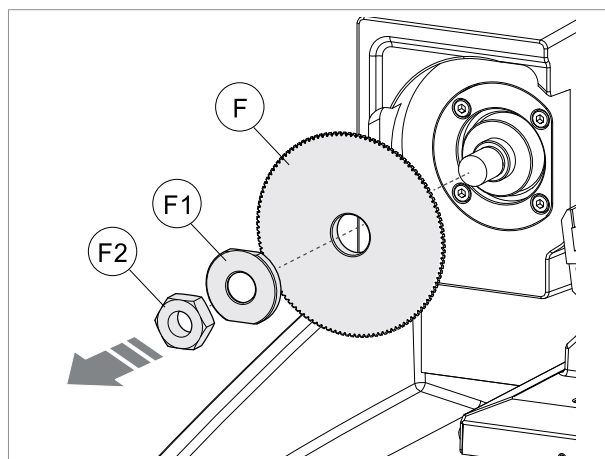

Fig. 147
- 5) Remove the nut (F2), hex washer (F1) and cutter (F) (Fig. 147).
- 7) Fit the new cutter (F), paying attention to the direction of rotation.